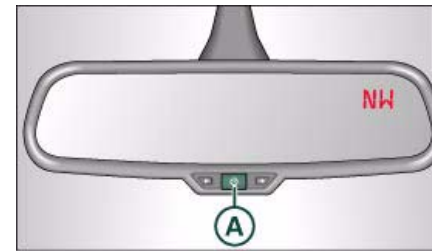

Fig. 70 Interior mirror: activated digital compass
- To switch the compass on and off, press and hold button  until the compass display in the mirror => fig. 70 appears or disappears.
- Press and hold button **A** ⇒ page 68, fig. 70 until the currently set zone number is displayed on the interior mirror.